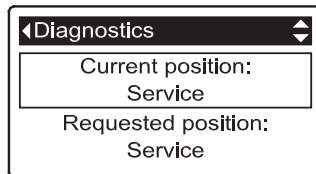

FIG. 141
4. Press the UP (▲) button to scroll through the list until **Current position** is displayed (See Figure 141).